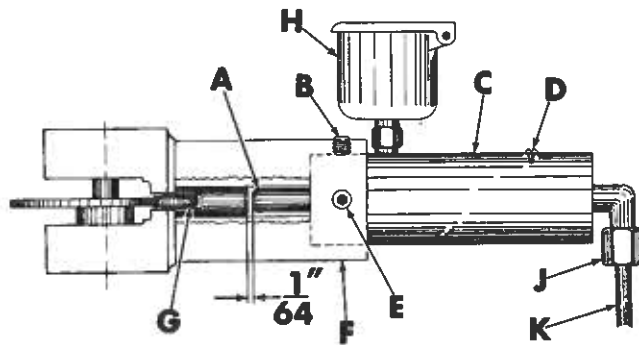

Figure 25
2. Remove nut (J, fig. 25) on end of variable control cylinder -- catching oil in pan.
3. Remove set screws (B) and (E) in variable cam housing (F).
4. Pull out upper variable control cylinder (C).
5. Remove the oil from old variable control cylinder oil reservoir (H).
6. While holding variable speed dial against low speed stop, slide new control cylinder (C) into variable housing (F) until variable plunger (A) is about 1/64" from cam roller plunger (G). Lock in place with set screws (B) and (E).
7. Install hydraulic line (K) and tighten nut (J).
8. Remove bleeder screw (D) and fill oil reservoir.
10. Replace bleeder screw (D).
- B. Loosen bleeder screw (D, fig. 25) a few turns until oil starts coming out around the screw.